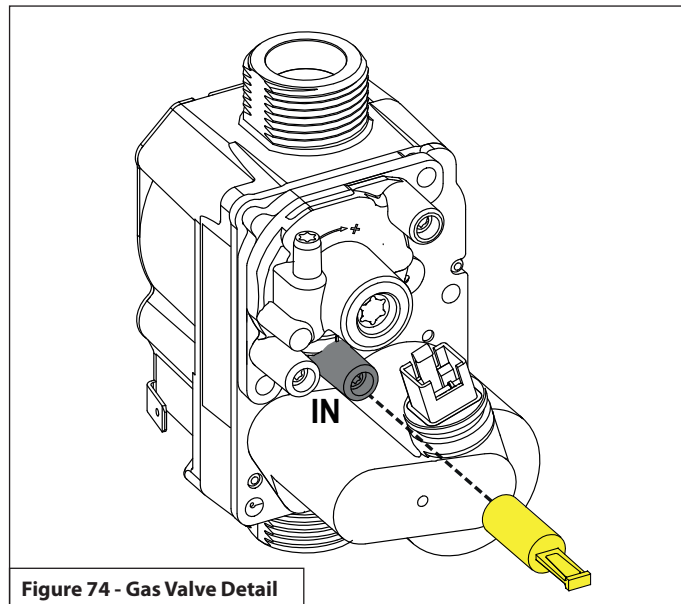

Figure 74 - Gas Valve Detail
1. Remove yellow cap from line pressure test point. See Figure 74.